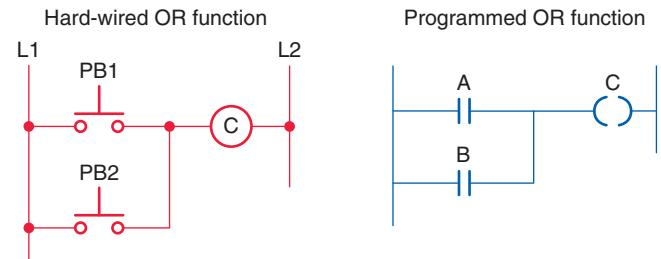

Figure 9-59 Hard-wired circuit and the equivalent PLC logic program for an OR logic control function.
Figure 9-59 shows a hard-wired circuit and the equivalent PLC logic program for an OR logic control function. Either one of the two normally open push buttons (PB1 or PB2) is closed to energize the contactor coil (C). This control logic is implemented in the hard-wired circuit by connecting the two input push buttons in parallel with each other to control the output coil. The PLC program uses the same inputs (PB1 and PB2) and output (C) devices connected to the PLC, but implements the logic via the program rather than the wiring.